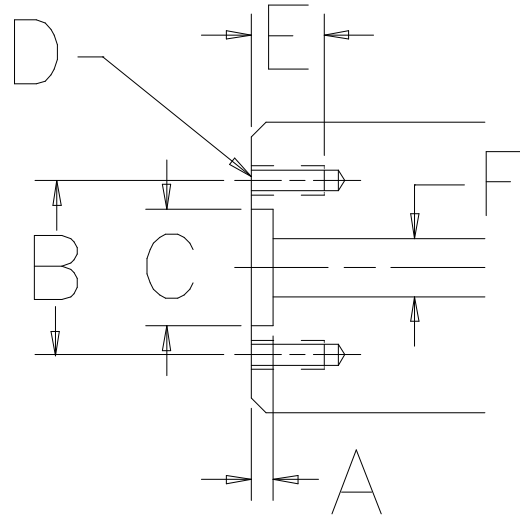

Figure 2
- 2.1.1 For AD, BD & FDA rotorseals see Figure 2 and Table 1 for shaft end machining. The ADP rotorseal uses a 1" 11/12 NPT thread on shaft center.